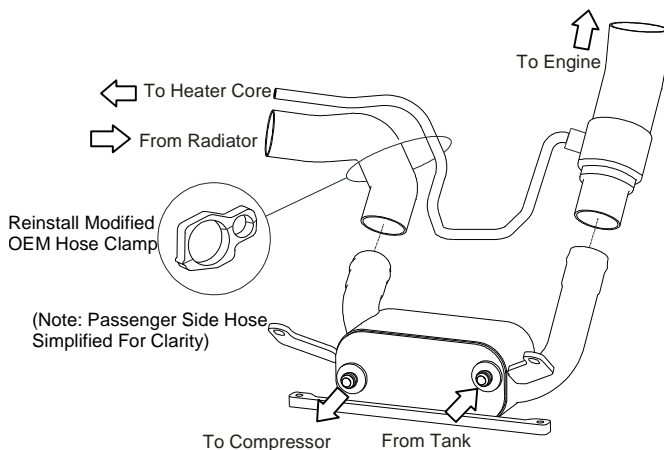

Figure 5.10
- ☐ Connect the lower radiator hoses to the cooler with supplied hose clamps. Reinstall the modified OEM hose clamp and ensure the smaller diameter hose is positioned so it does not come in contact with the stabilizer bar.(Figure 5.10)